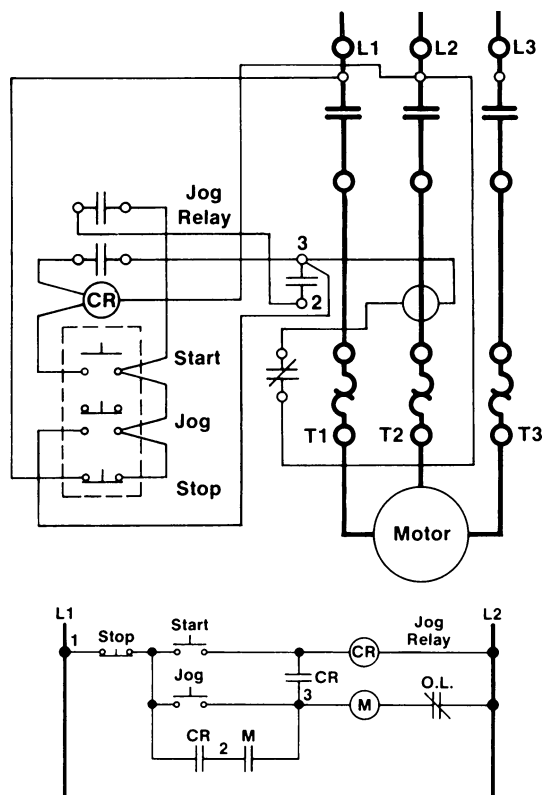

Fig. 16-6 Start-stop jog three-phase starter. (Allen-Bradley)
The purpose of jogging is to have the motor operate only as long as the *jog* button is held down (Fig. 16-6). The starter must not lock-in during jogging. That is why the jog relay (CR) is used.